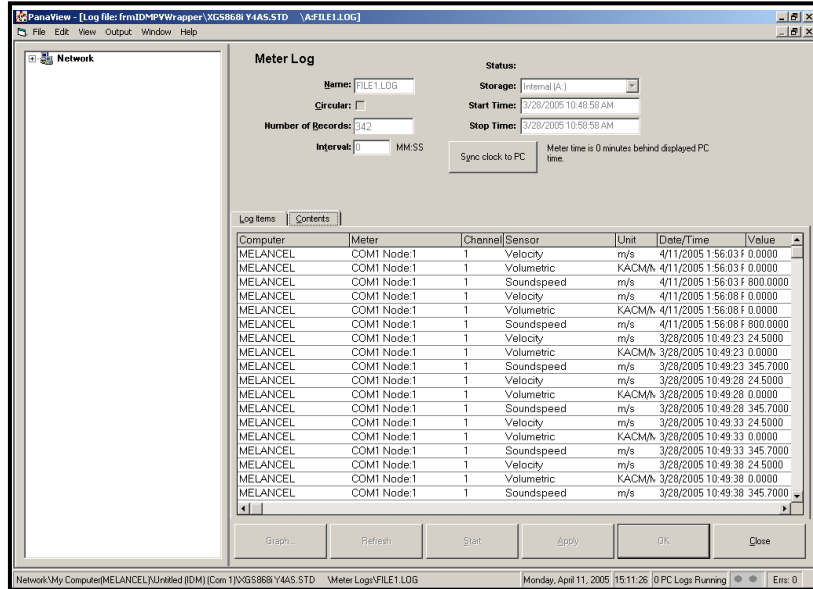

Figure 21: Typical Log Contents
- Click on the *Contents* tab (see Figure 21 on page 58) for a list of all the data points logged to date for the parameter currently highlighted on the *Log Items* tab.
Remember that only two parameters per channel may be graphed, and that the same two parameters must be graphed for each channel of a multi-channel graph display. When you have finished viewing the graph, click on the **[Close]** option button to close the Graph window and leave the log running. To review log details, click on the **Contents** tab. The window now appears similar to Figure 21.
- Click on the *Log Items* tab (see Figure 21 on page 58) for a list of the parameters specified for logging.